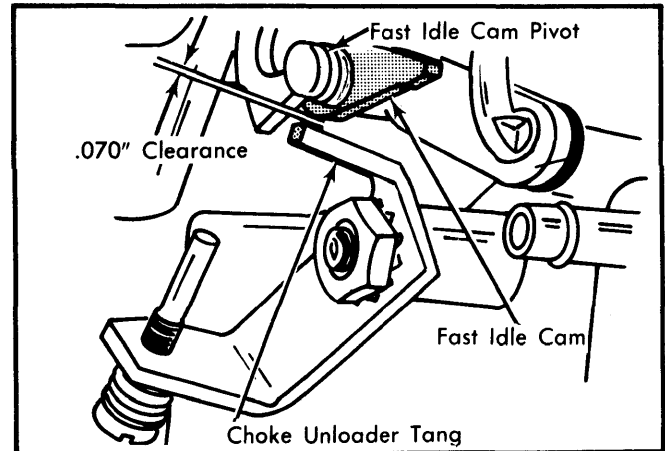

Fig. 7 Unloader Tang-to-Fast Idle Cam Clearance
- 3) After correct adjustment is obtained, open throttle until unloader tang is directly under fast idle cam pivot. Make sure there is .070" clearance between unloader tang and fast idle cam. See Fig. 7.